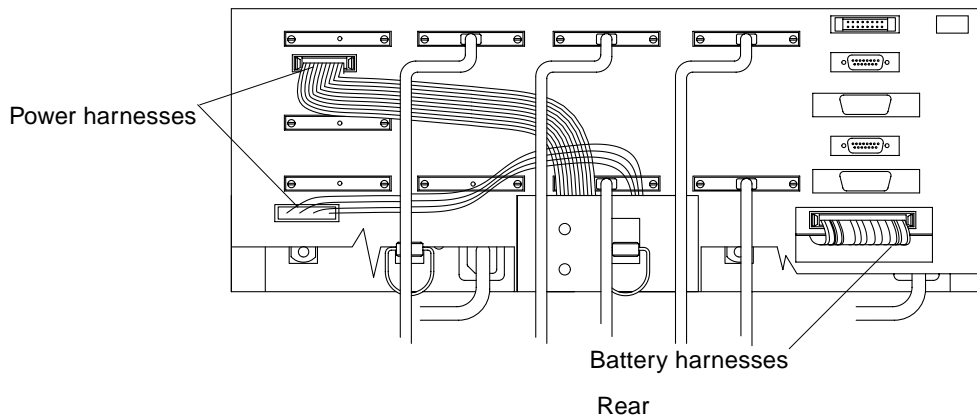

FIGURE 6-6 Battery and Power Harnesses on a SCSI Controller Module
3. Disconnect the battery and power harnesses on the rear of the controller module. FIGURE 6-6 shows the battery and power harnesses on the rear of a SCSI controller module.
12. Connect the battery and power harnesses (FIGURE 6-6).